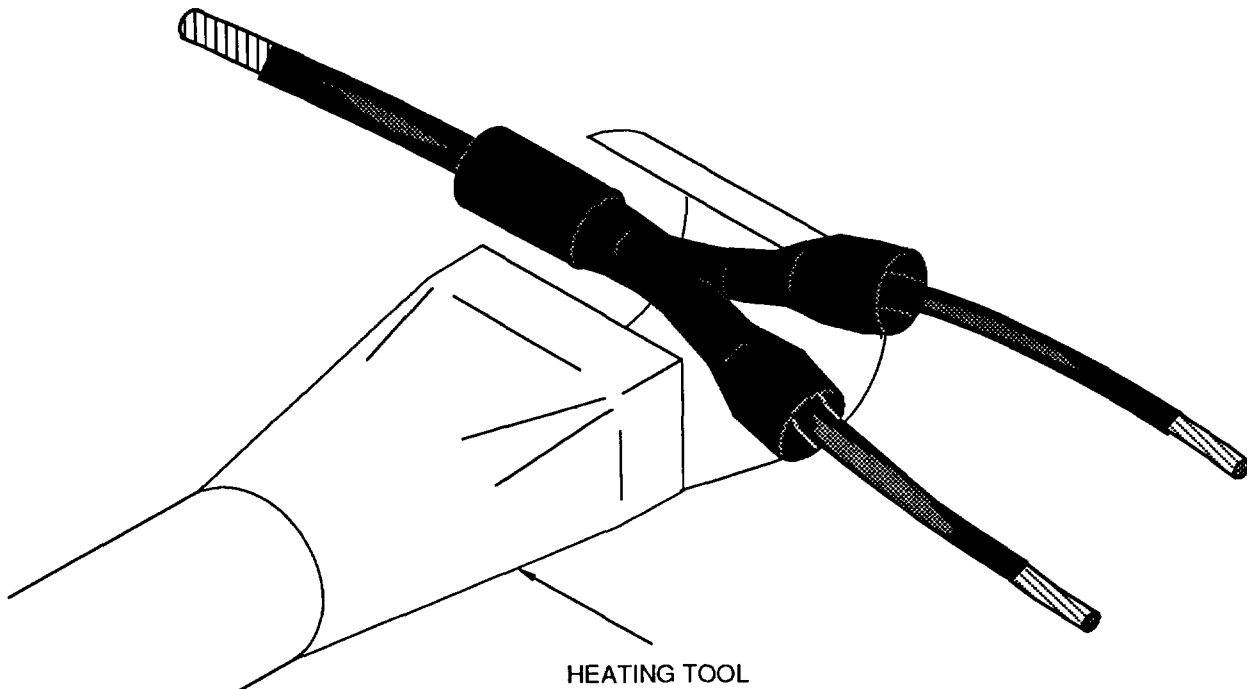

Figure 5. Transition Installation
e. Starting at center of transition and proceeding to each leg, completely shrink transition using heat gun with or without reflector (Figure 5).